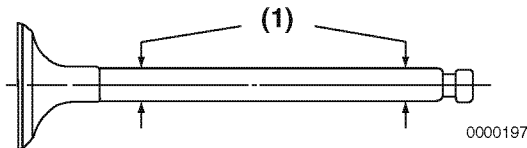

Figure 6-16
Use a micrometer to measure the valve stem diameter. Measure the valve stem near the combustion end and near the opposite end (Figure 6-16, (1)). Record the measurements. See *Intake / Exhaust Valve and Guide on page 6-6 for the service limit.*